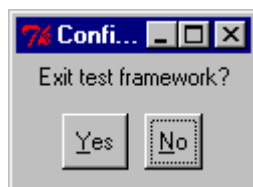

Figure 5-3. Exit Confirmation Dialog Box
2. *Click Exit.* A confirmation dialog box appears. *Click Yes* to confirm or *No* to continue running the framework. Figure 5-3 shows the Exit Confirmation dialog box.
In all cases, the confirmation dialog box shown in Figure 5-3 appears.